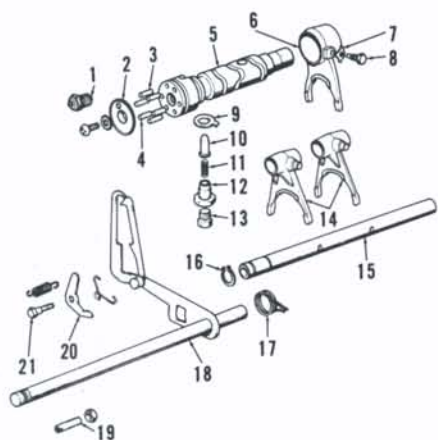
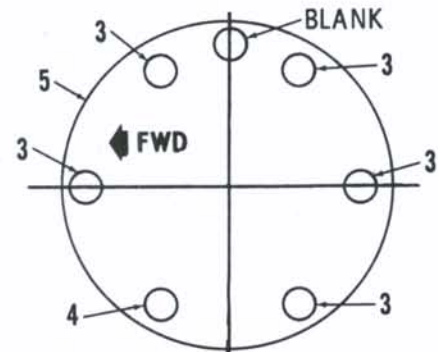

Fig. K13-26—Exploded view of shaft mechanism components.
Fig. K13-27—Long shift drum pin (4) must be installed in hole shown for neutral light to work properly. Refer to Fig. K13-26 for legend.
Shift forks may be installed after case halves are assembled. Shift drum pins (3 & 4—Fig. K13-26) must be installed correctly for proper operation of neutral light switch. Long shift drum pin (4) must be installed as shown in Fig. K13-27.